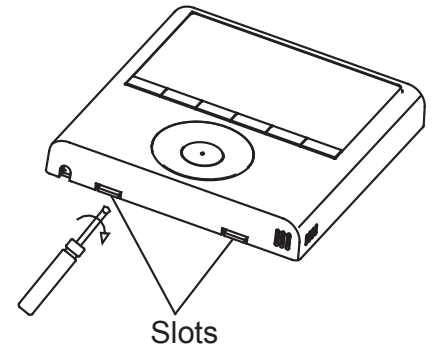

Fig 3-4
- Remove the upper part of the wired controller (Fig.3-4)